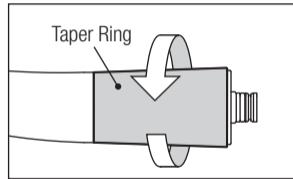

Fig. 11
- 1) Loosen and remove the taper ring at the rear of the handpiece (Fig. 11).